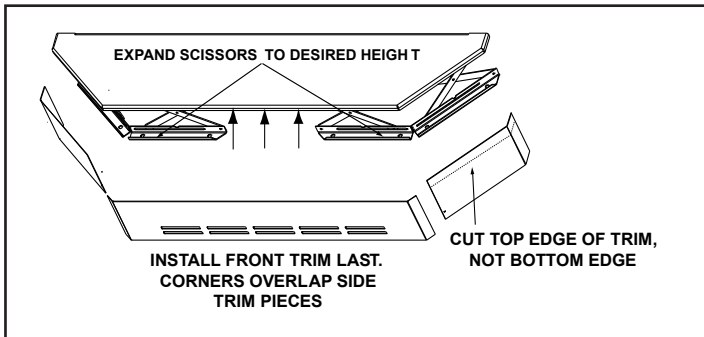

Figure 24.2
2. Expand scissors to desired height. Tighten screws to hold in place using Phillips head screw driver. **Figure 24.2 on page 24.**